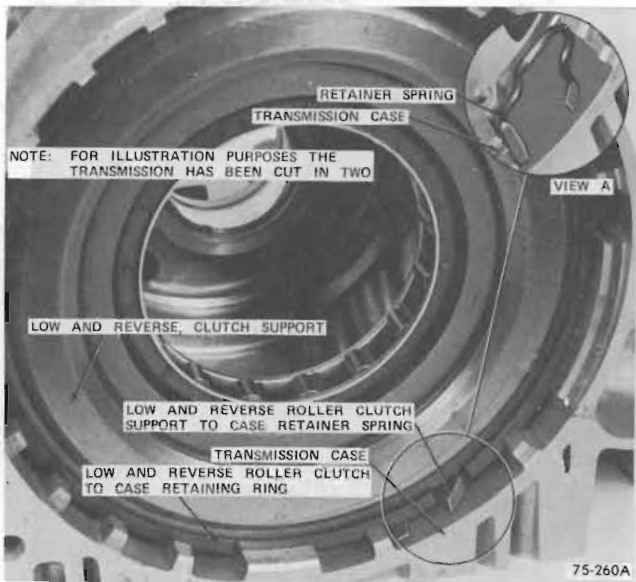

Figure 75-233
2. Install low and reverse clutch support retainer spring. See Figure 75-233.